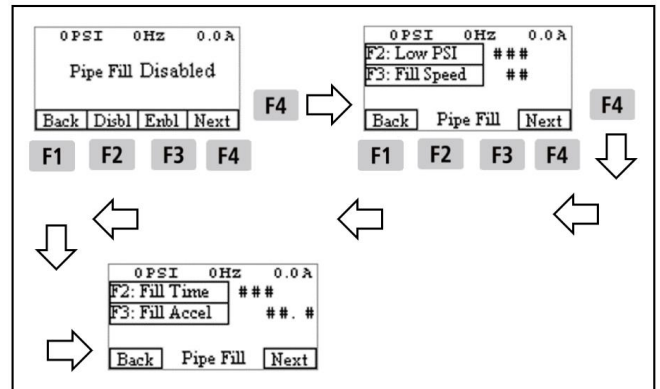

Figure 12-12. Adjusting Pipe Fill Parameters.
6. Adjust the parameters for the Pipe Fill Mode. All Pipe Fill settings may be changed using Method 2 outlined in **11 Setting Variable Frequency Drive Parameters** section. From the Pipe Fill Enable / Disable screen, press the **F4** Next key to get to the first Pipe Fill screen (see Figure 12-12).
7. From the first Pipe Fill screen, press the **F4** Next key to get to the second Pipe Fill screen (see Figure 12-12).